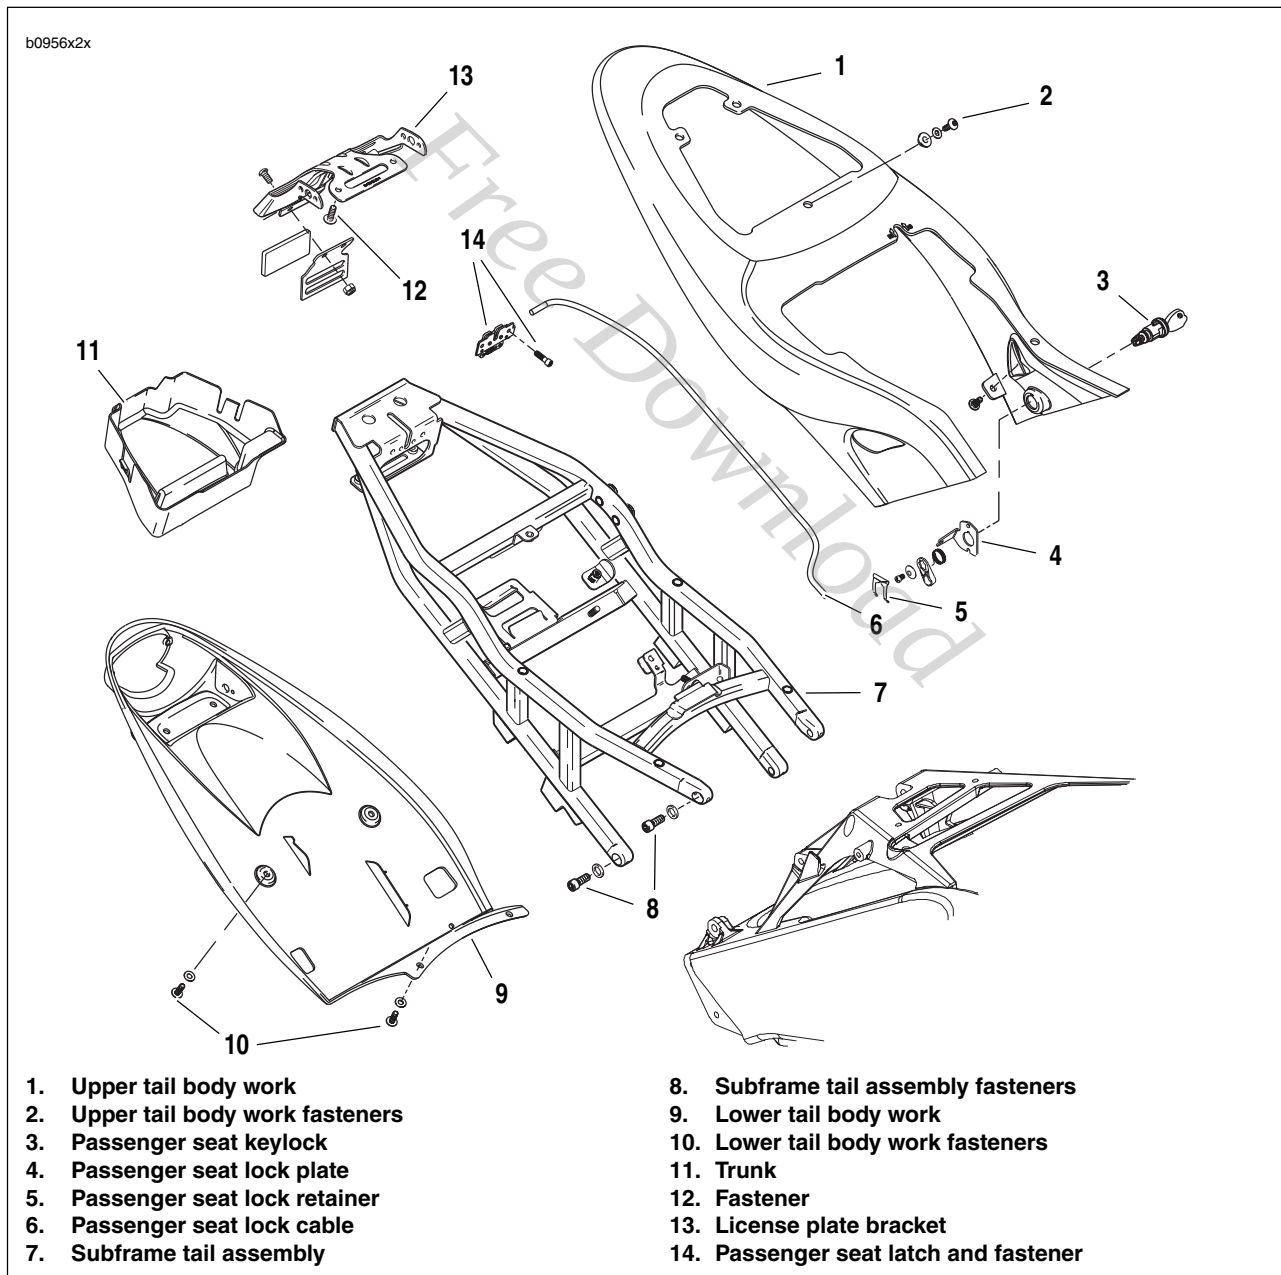
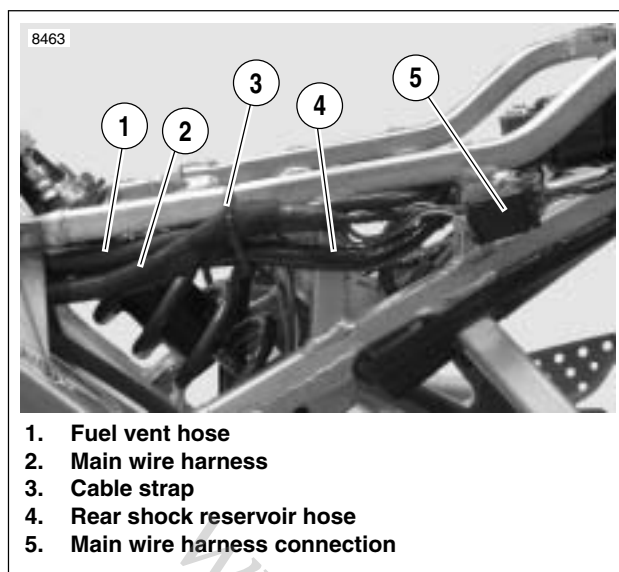
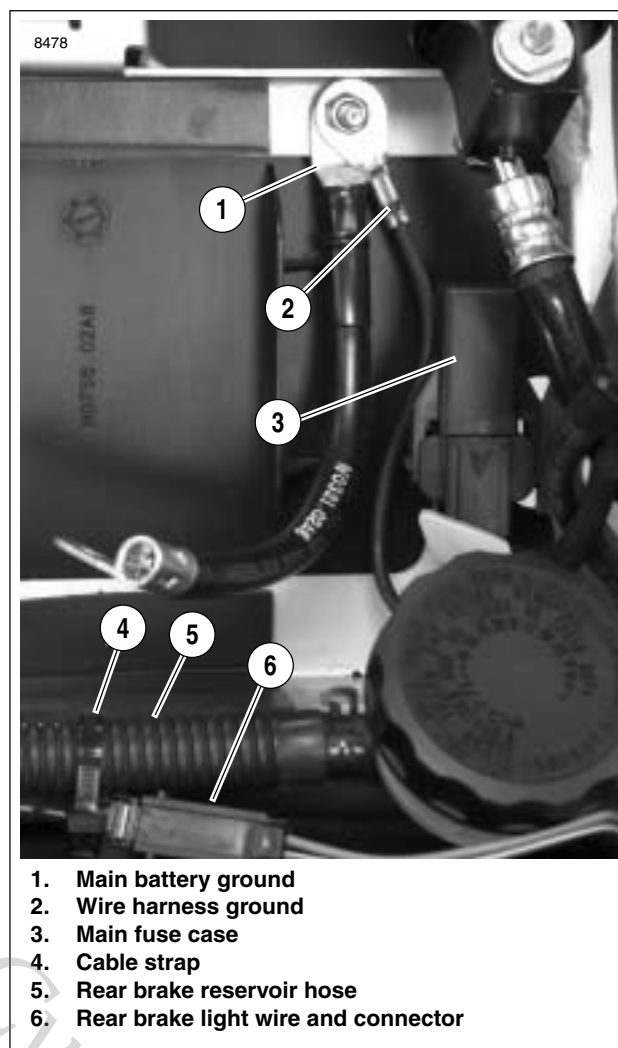
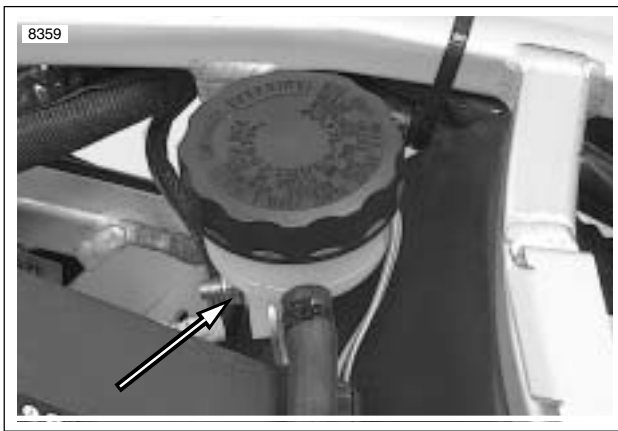

Figure 2-120. Subframe Tail Assembly and Body Work Assembly
Figure 2-121. Left Side Subframe Tail Assembly Hose and Wire Routing
Figure 2-122. Inside Subframe Tail Assembly Hose and Wire Routing
Figure 2-123. Remote Reservoir Clamp Nut
3. See Figure 2-120. Remove upper body work (1) from subframe tail assembly (7).
- a. Remove body work fasteners (2).
- b. Disconnect passenger lock cable (6) by removing cable from seat lock plate (4) and ferrule from keylock (3).
- c. Lift upper tail body work (1) off subframe tail assembly (8).
4. Remove passenger seat latch (14) from rear of subframe tail assembly.
5. See Figure 2-121. Cut cable strap (3) from subframe tail assembly holding vent hose (1), main wire harness (2) and shock reservoir hose (4).
6. Disconnect rear power harness connection (5).
10. See Figure 2-120. Remove license plate fasteners (12) from lower tail body work (9) and remove license plate (13).
12. Remove lower body work (9) and trunk (11) from subframe tail assembly (7).
- a. Remove lower body work (9) underneath subframe tail assembly by removing fasteners (10).
- b. Remove trunk (11).
13. See Figure 2-122. Disconnect main battery ground (1) and ground to wire harness (2).
14. Remove main fuse case (3) from subframe tail assembly.
15. See Figure 2-122. Cut cable strap (4) holding rear brake reservoir hose (5) and rear brake light wire (6).
16. Disconnect rear brake light connection (6).
17. See Figure 2-123. Remove rear brake reservoir clamp nut.
20. See Figure 2-120. Remove subframe tail assembly fasteners (8) and remove subframe tail assembly (7) from frame.
1. Install subframe tail assembly (7) to frame and tighten fasteners (8) to 21-23 ft-lbs (28-31 Nm) using LOCTITE 272.
3. See Figure 2-122. Feed rear brake light connector (5) into subframe tail assembly and connect.
4. Install main fuse case (3) onto subframe tail assembly.
5. Install main battery ground (1) and ground to wire harness (2) to subframe tail assembly. Tightening fastener to 72-96 **in-lbs** (8-11 Nm).
6. See Figure 2-121. Feed the rear shock reservoir (4) through second subframe tail assembly support.
9. See Figure 2-121. Feed fuel vent hose (1) through tail section, keeping the hose on top of rear shock reservoir hose. See D.1 HOSE AND WIRE ROUTING for hose and wire routing.
10. Install cable strap (3) holding shock reservoir hose, wire harness and fuel vent hose to subframe tail assembly.
11. See Figure 2-123. Feed rear brake reservoir hose underneath subframe tail assembly and install rear brake reservoir tightening fastener to 48-72 **in-lbs** (5.4-8.1 Nm).
12. See Figure 2-122. Install cable strap holding brake light connector and rear reservoir hose.
13. See Figure 2-120. Install lower body work (9) and trunk (11) onto subframe tail assembly (7).
- a. Install trunk (11).
- b. Install lower body work (9) underneath subframe tail assembly by tightening fasteners (10) to **36-48 in-lbs** (4-5 Nm).
15. See Figure 2-121. Connect rear power harness to tail light harness (5).